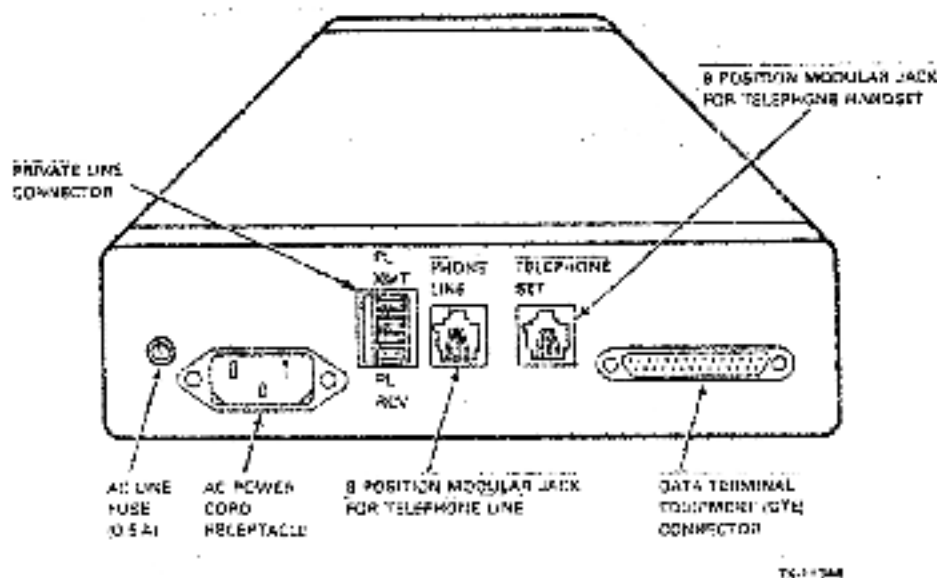

Figure 2-2 Standalone Modem Rear Connector Panel
2. From the bottom, remove the two slotted screws closest to the front cover as shown Figure 2-2 and remove the cover.